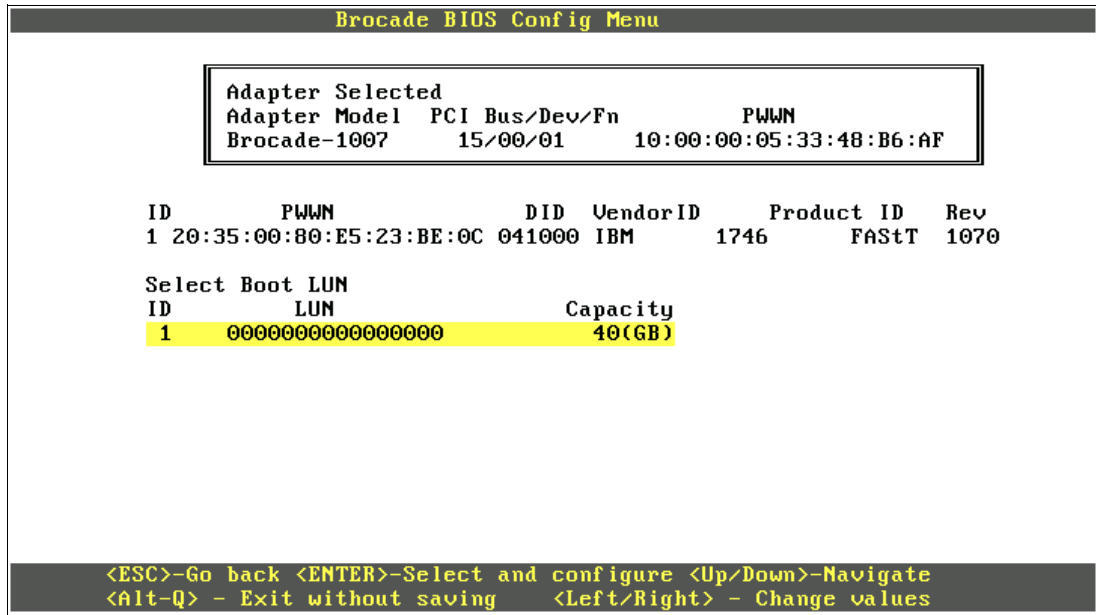

Figure 9-210 Selecting the LUN you want to boot from
15. When you see the available LUN, select the LUN you want to boot from, and then press Enter (Figure 9-210).
The boot LUN must be one LUN with all 0s. Some operating systems require the LUN to be LUN 0 (as shown in Figure 9-210) to boot from. If you see a LUN with a number other than 0, sign in to your SAN disk storage device, and redo your mapping to ensure that the LUN is LUN 0. Then reboot the blade server again, and go back to 1 on page 421 to repeat this part of the procedure.
**LUN versus LUN ID:** This step refers to LUN in terms of a number, not a LUN ID (Figure 9-210 on page 426). The LUN ID is 1, but the LUN itself is 000000000000000000, which is acceptable.